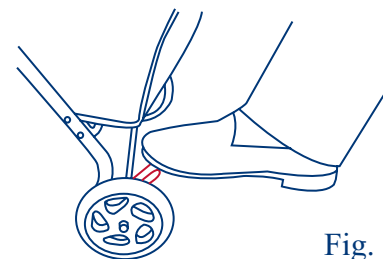
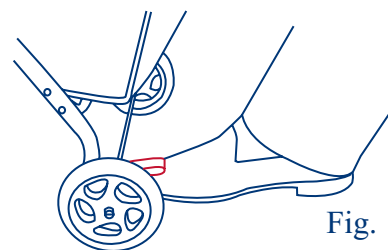

Fig. 10
Fig. 11
* To engage brakes, apply light downward pressure to the brake lever located on each rear wheel. See figure 10. The stroller may require slight forward or rearward movement in order to line up the teeth on the brake with each wheel brake cluster. Check that the stroller will not move and that the brakes are properly applied. To release, gently lift up on the brake lever. See figure 11.